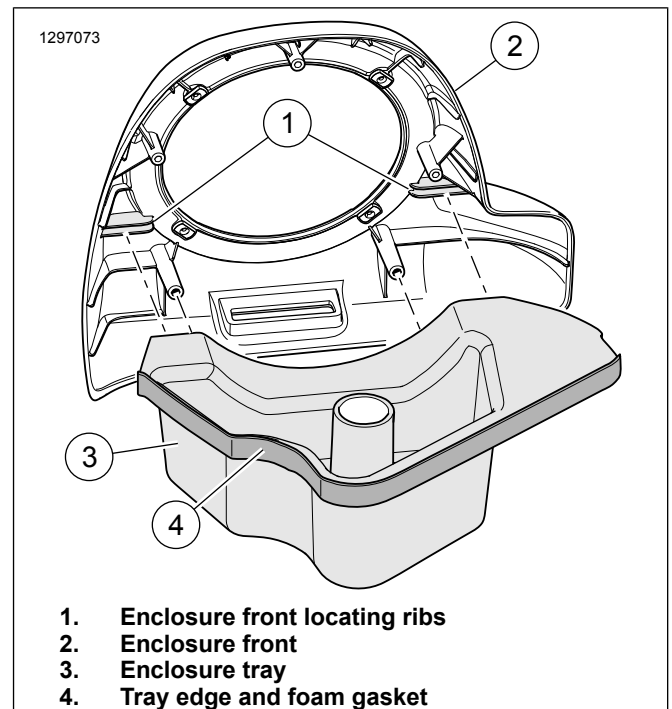

Figure 6. Enclosure Assembly
6. See Figure 6. Assemble the enclosure tray (4) to the front enclosure (2). Remove the paper backing from one side of the double-sided foam gasket (5). Install the seal as shown. Trim and save excess foam gasket seal for later use.